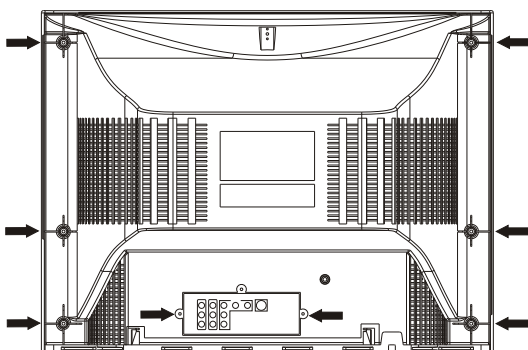

Figure 1
- 1.Remove screws from the rear cover as shown in Figure 1.